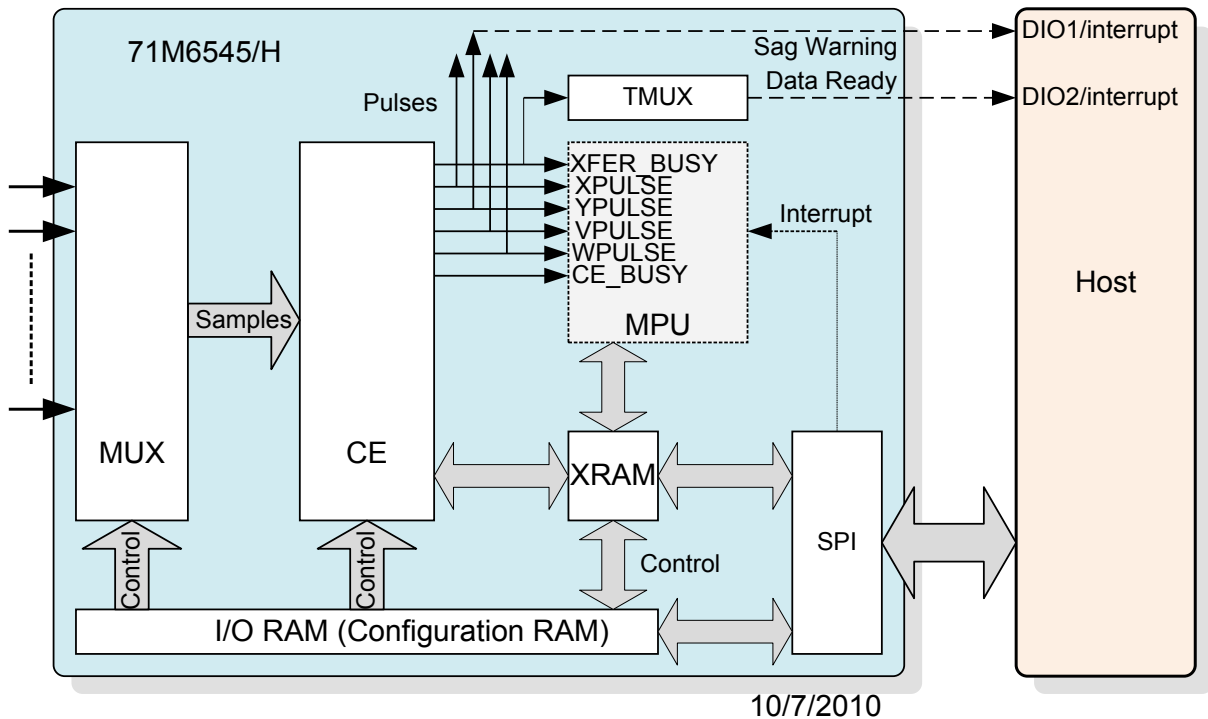

Figure 22: Data Flow
The data flow between the Compute Engine (CE) and the host is shown in Figure 22. In a typical application, the 32-bit CE sequentially processes the samples from the voltage inputs on pins IADC0-IADC1, VADC8 (VA), IADC2-IADC3, etc., performing calculations to measure active power (Wh), reactive power (VARh),  $A^2h$ , and  $V^2h$  for four-quadrant metering. These measurements are then accessed by the host via the SPI interface, processed further and stored and/or displayed. For example, to obtain the RMS current value in phase A, the host reads the *I0SQSUM\_X* register of the CE, scales it with VMAX, IMAX, and the LSB, as given in the CE Interface description (see 5.4 CE Interface Description on page 100), and then performs a square-root operation. Similarly, momentary real power and reactive power available via the *WSUM\_X* and *VARSUM\_X* registers only have to be scaled by the host, while the apparent power has to be post-processed as follows:
Figure 22 illustrates the CE-to-host data flow.